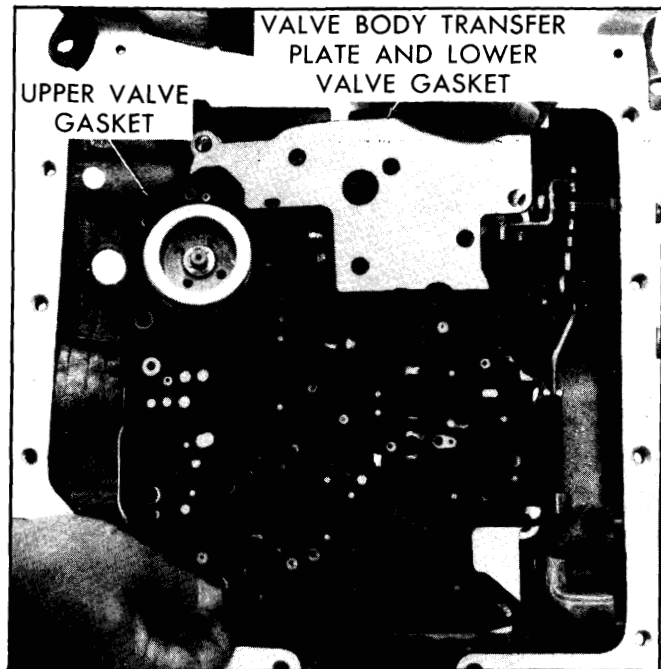

Fig. 7-21—Removing Valve Body Transfer Plate and Gasket
6. Remove upper valve gasket, valve body transfer plate and lower valve gasket. (Fig. 7-21)